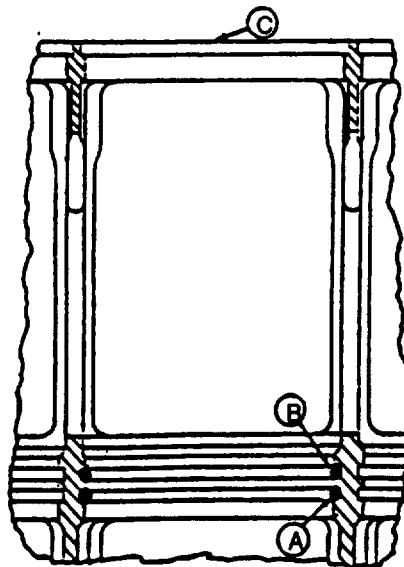
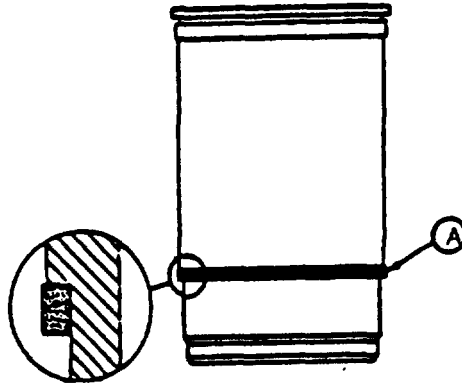

FIGURE 3-146. Location of Cylinder Liner Packings
FIGURE 3-147. Location of Cylinder Liner Square Packing
Do not use oil or hand cleaner soap on cylinder liner packings (A, FIGURE 3-146). Petroleum products will cause the red (or white) packing to swell, which may result in packing damage during liner installation.
- a. Pour liner lubricant (AR54749) into a suitable container. Dip packings (A and B, FIGURE 3-146) in lubricant.
- b. Install black packing (A) in lower packing groove in cylinder block.
- c. Install red (or white) packing (B) in upper packing groove in cylinder block.
- d. Turn cylinder liner upside-down. Dip the square packing (A, FIGURE 3-147) in liner lubricant and install over outside of liner.
- f. Coat liner packings (A and B, FIGURE 3-146), sealing area of the cylinder liner and engine block packing (A, FIGURE 3-147) with liner lubricant.